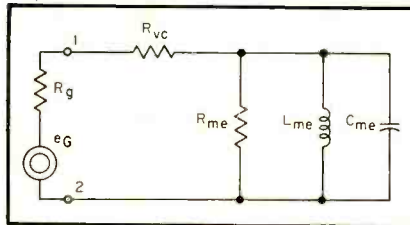

Fig. 3. Circuit of Fig. 2 with addition of generator.
WE NOW COME to the question of damping of the loudspeaker mechanism by the electrical circuit. In Fig 3 is shown the electrical equivalent of a loudspeaker illustrated in Fig. 2, with the addition of an electrical source of internal resistance R_G feeding it. This normally represents the R_p of the output tube or tubes as viewed from the secondary terminals of the output transformer.
An inspection of Fig. 3. indicates that R must represent R_{me} paralleled by $(R_{vc} + R_G)$, hence if R_{me} is greater than the value required by Eq. (10),